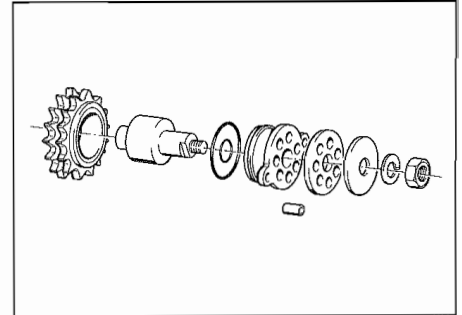

Fig. 52 - Tendicatena
- Referring to **Fig. 52**, remove the two chain stretchers. Check tooth wear of the gear and inner bush; replace the two O rings.